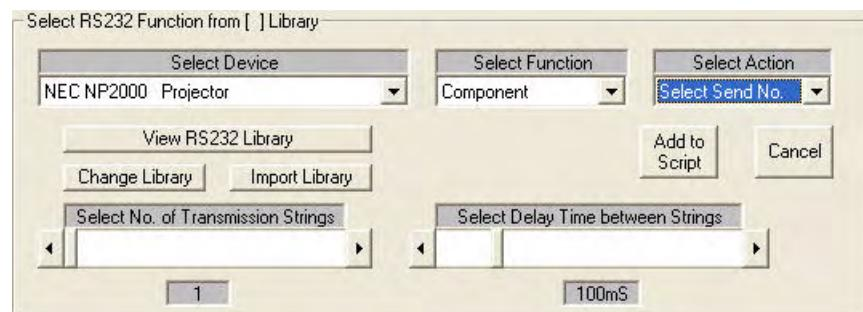

FIG. 31 Select RS232 Function window - Select Number of Strings/Delay Time between Strings
- Click the arrows on the *Select Delay Time between Strings* field to set a delay time between strings. (FIG. 31).